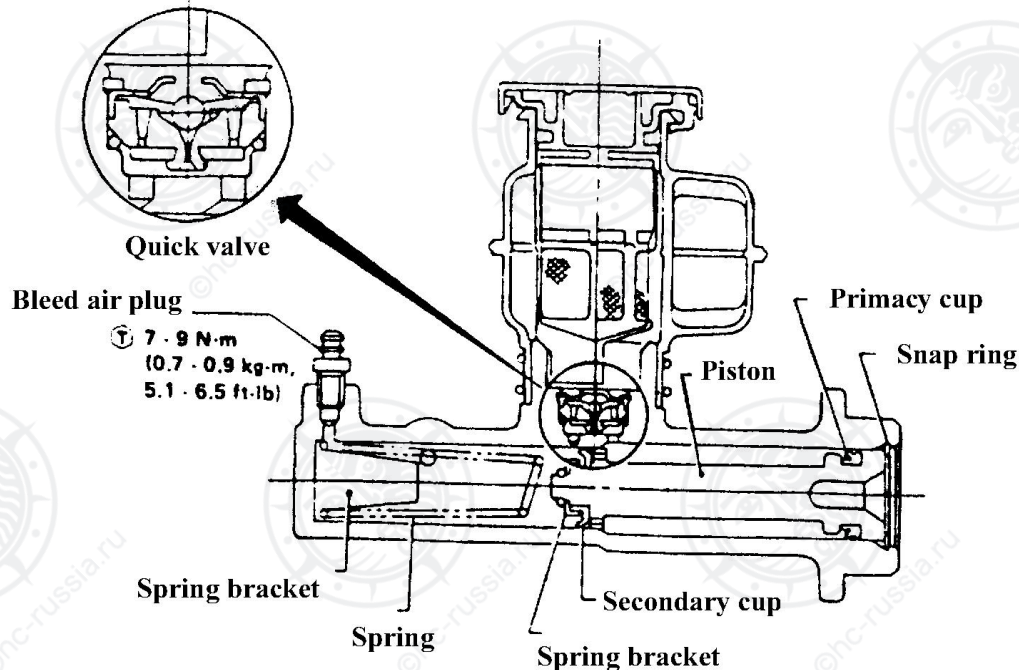

Fig. 4-9 Cup, spring bracket position
- 4) The position of the piston cup and spring bracket must be correct (refer to fig.4-9)